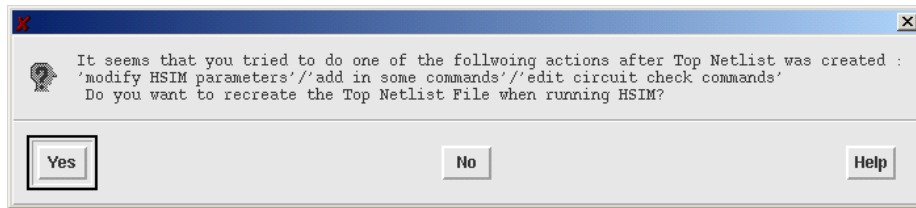

Figure 50 Top Netlist File Regeneration Confirmation Window
- If parameter settings are modified and HSIM -> Run HSIM is run directly without updating the top netlist, Native Netlist Integration displays a confirmation dialog box asking whether the Top Netlist File should be recreated when running HSIM as shown in Figure 50. Use the [Yes] or [No] screen buttons to tell the system whether to update the Top Netlist File or not.